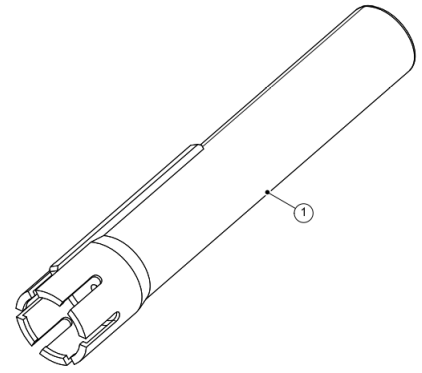

Figure 74. Installation tool
3. If you answered yes to any of the questions, refer to page 6 &7, figure 74 to replace the liners